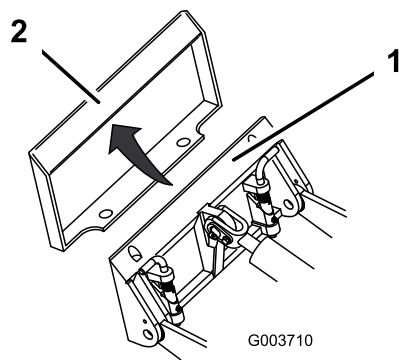

Figure 15
4. Position the mount plate into the upper lip of the attachment receiver plate (Figure 15).